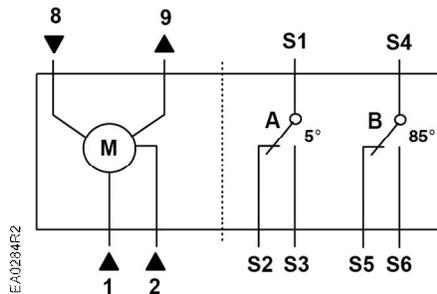

Figure 7.
1. Connect all wires per Figure 7.